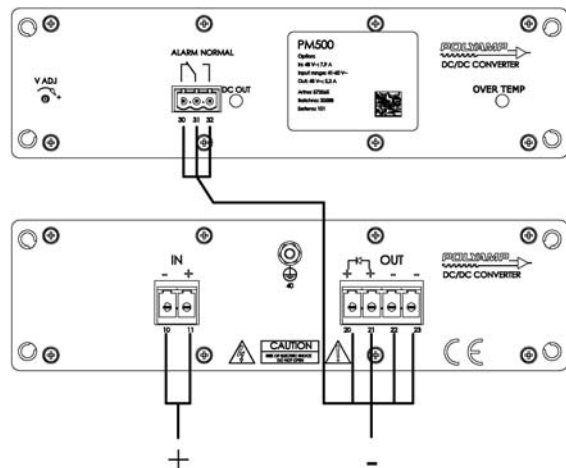

Figure 7. Input to output isolation voltage test.
4. Connect your isolation tester between input and output. See *Figure 7*.